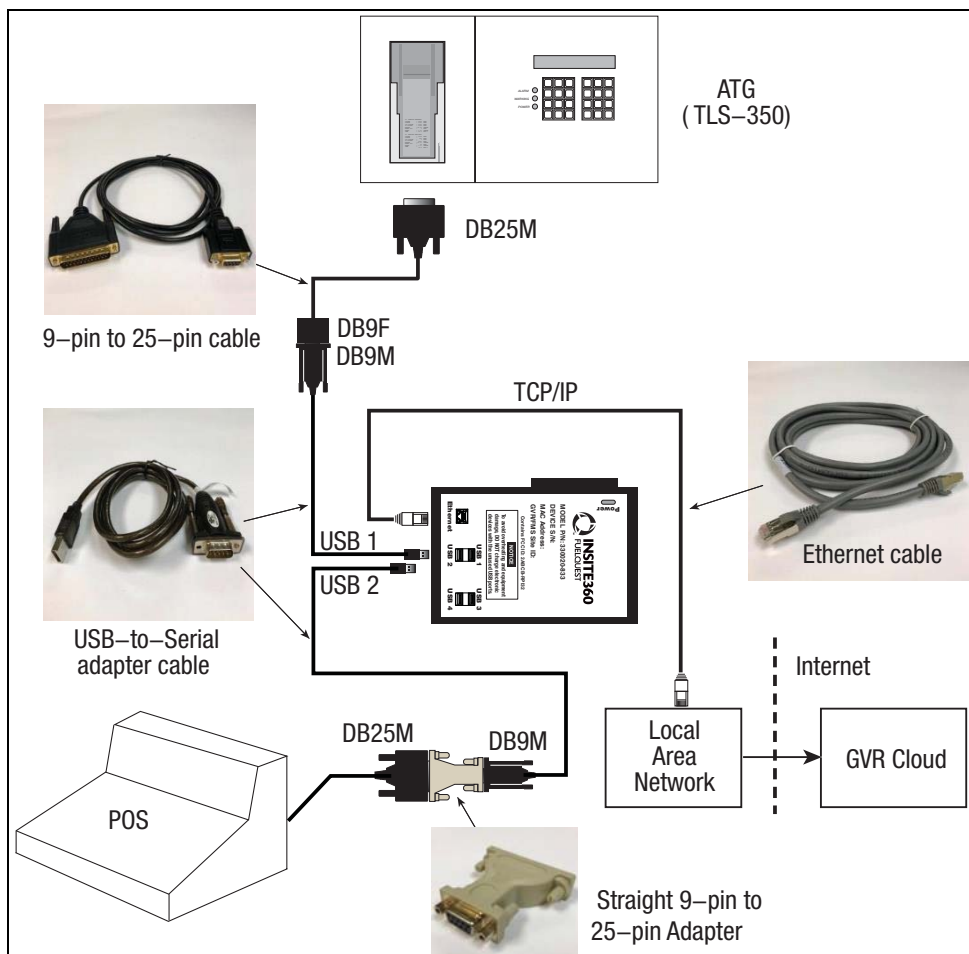

Figure 4. Scenario 2 Insite360 Connect Hookup - TLS-350 With EDIM Connection To POS
2. Plug this disconnected POS cable into the DB25F end of the DB25 female / DB9 female mini gender changer adapter (330020-834 kit) (see Figure 4).